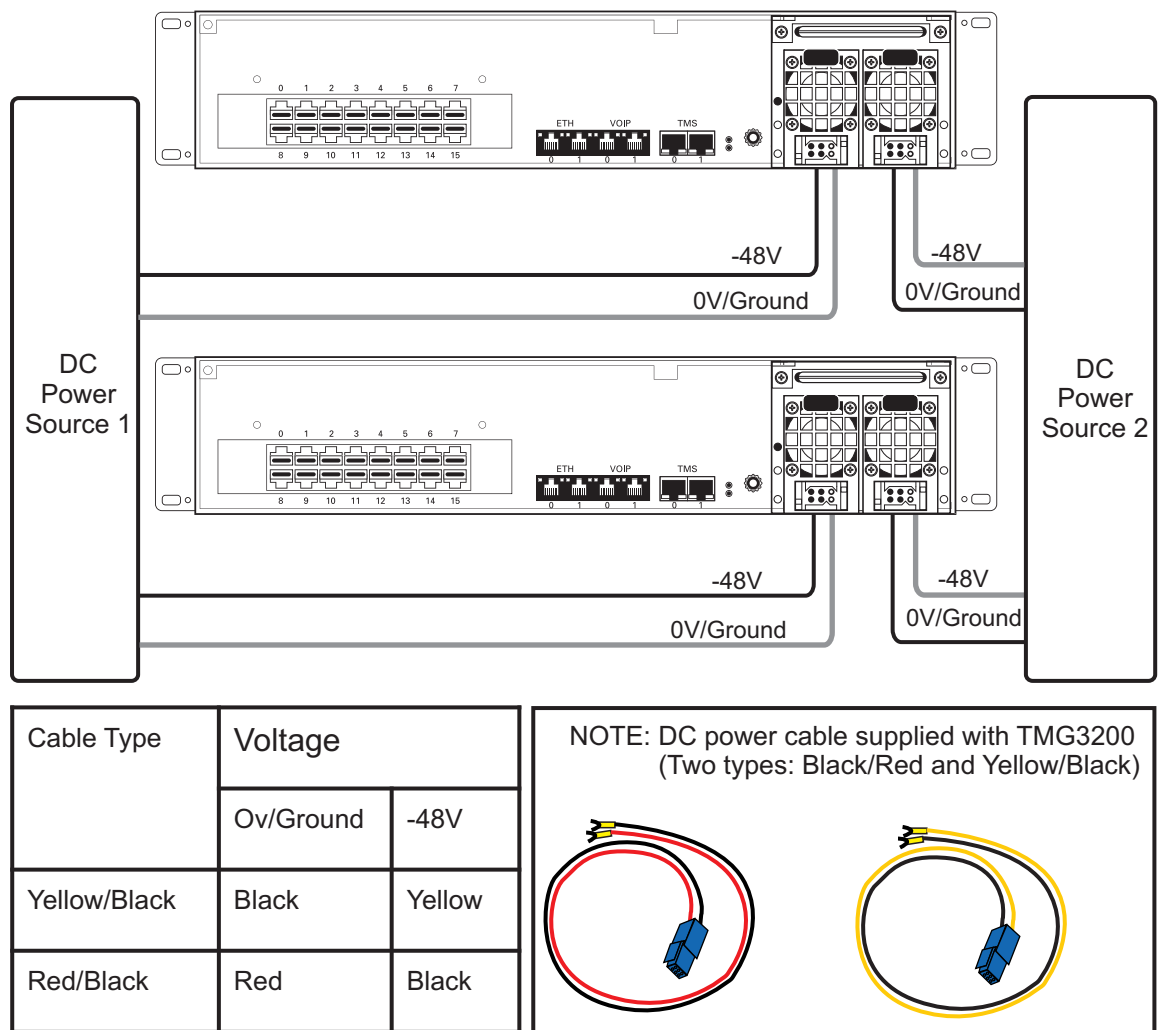

Figure 2.19 TMG3200 and TMG3200 +1 DC Power Connections
1. Connect the first DC power connector of the TMG3200 and TMG3200 +1 to DC power source one. See figure 2.19 on page 41.